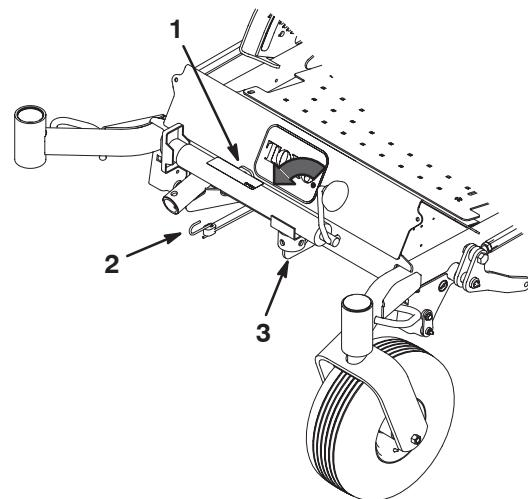

Figure 3
- A. Align the holes in the jack tube with the hole in the jack mount tab (Fig. 3). Secure jack to the tab with the jack pin.
- B. Hook bungee cord jack into hole in jack mount tab to secure jack (Fig. 3). Fold down jack handle into storage position.